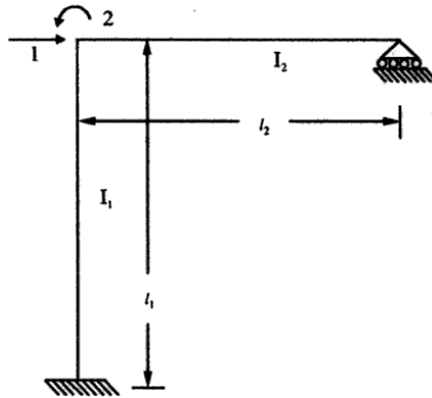

Figure 2.11
b) Generate the stiffness matrix for the structure with coordinates as shown in Figure 2.11